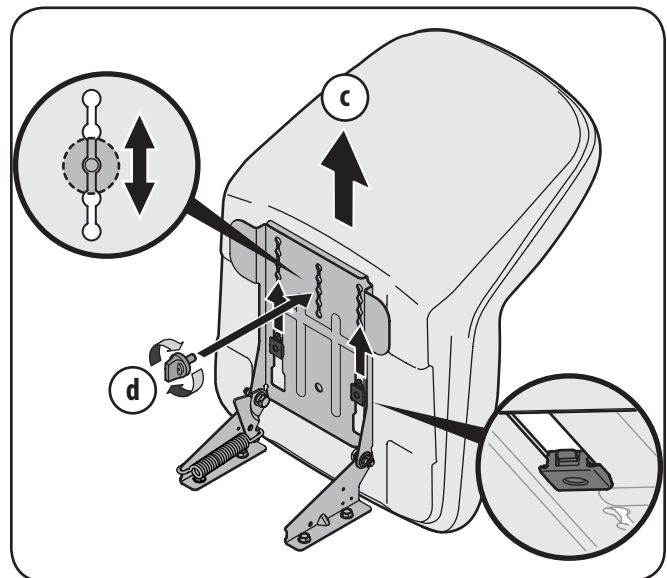

Figure 3-5
1. Check the mower deck for a shipping brace that may be holding the chute deflector upward for shipment. If the brace is present, it must be removed before operating the tractor. Holding the chute deflector fully upward, remove the shipping brace. Lower the chute deflector and discard the shipping brace. See Figure 3-5.
3. Slide the seat rearward in the seat pivot bracket (c), lining up the center rear slot in the pivot bracket with the remaining hole in the seat’s base. See Figure 3-5.
Note: Be certain the two seat tabs engage the pivot bracket as shown in the bottom inset of Figure 3-5.
4. Select desired position for the seat, and secure with the adjustment knob removed earlier (d in Figure 3-5).
5. To adjust the position of the seat, remove the adjustment knob on the bottom of the seat. Slide the seat forward or backward as desired. Reinstall the adjustment knob. See Figure 3-5.